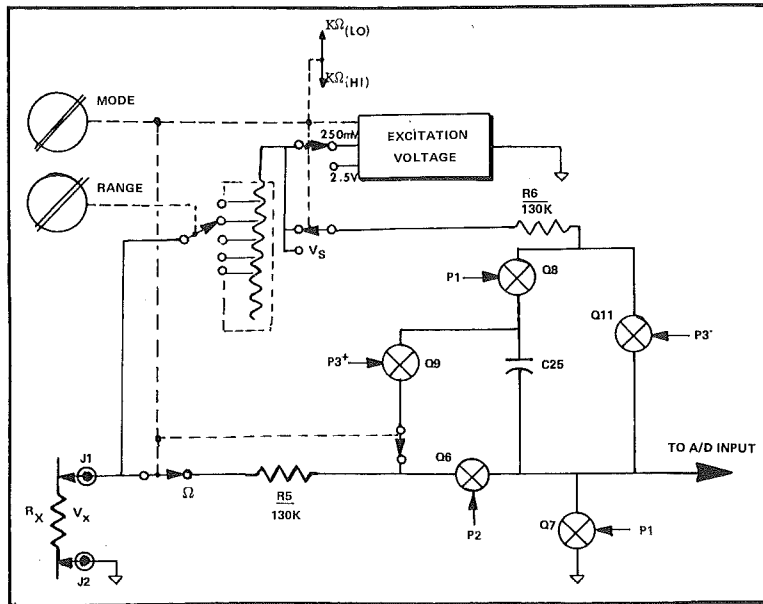

Fig. 3-3. Resistance Measurement Signal Conditioning
a. In the Data Precision Ratiohmic technique of resistance measurement, the signal conditioning for A/D input is accomplished as part of the same circuit that develops the Isopolar reference input for the A/D during Phase 3. Figure 3-3 is a simplified schematic of the Model 175 instrumentation illustrating the principles of operation.